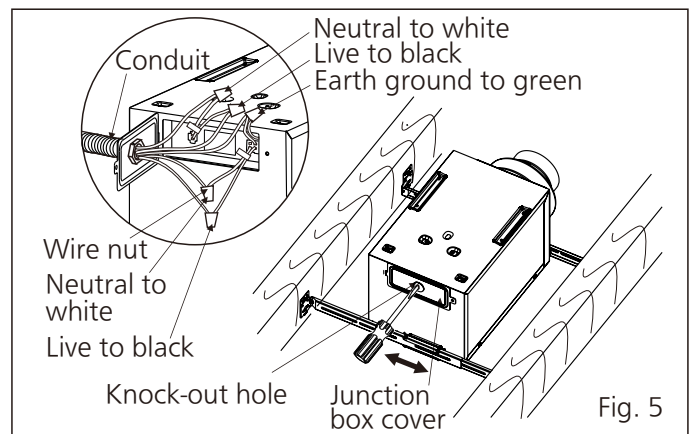

Fig. 5
- Remove the knock-out hole from the junction box cover, and remove the junction box cover. Then secure the conduit or stress relief to the junction box knock-out hole. (Fig. 5)
- Refer to wiring diagram (Page 5). Follow all the local electrical safety codes as well as the National Electrical Code (NEC). Using UL approved wire nuts, connect house power wire to ventilating fan wires. (Fig.5)